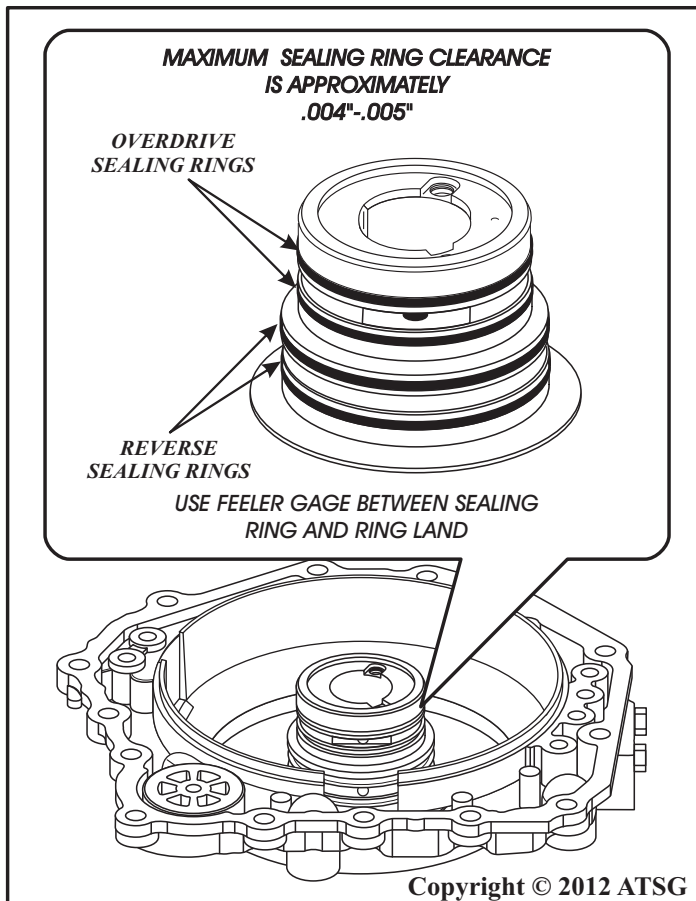

Figure 107
2. Inspect end cover journal and sealing ring area for any wear and/or damage and check seal ring groove clearance with a feeler gage, as described in Figure 107.